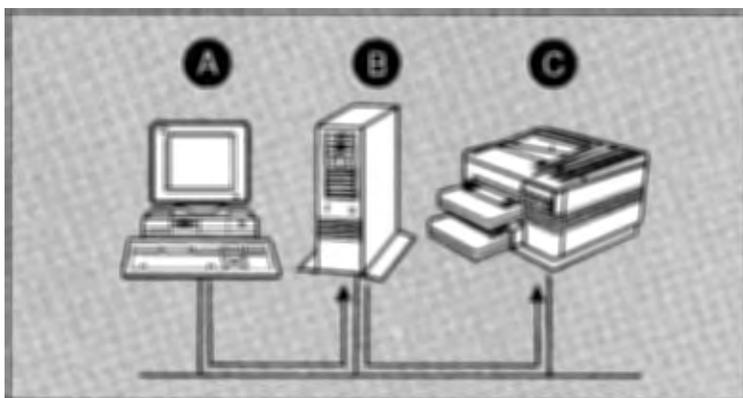

Figure 1-3. Novell Network Printing in Queue Server Mode
When configured for Queue Server mode, the data follows the path illustrated by Figure 1-3. First the user prints the job at a workstation (A). The job travels to the file server (B) where it is stored, or spooled, in a print queue. When the printer is ready to print a job, the Queue Server in the HP Network Printer Interface moves the print job to the printer (C) where it prints.